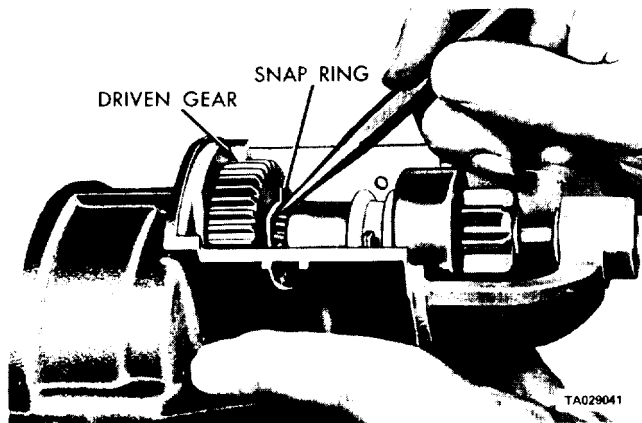

Figure 15-14. Removing Driven-Gear Snap Ring.
- n. Remove the driven-gear snap ring (figure 15-14).
- (6) Install the driven-gear snap ring (figure 15-14).